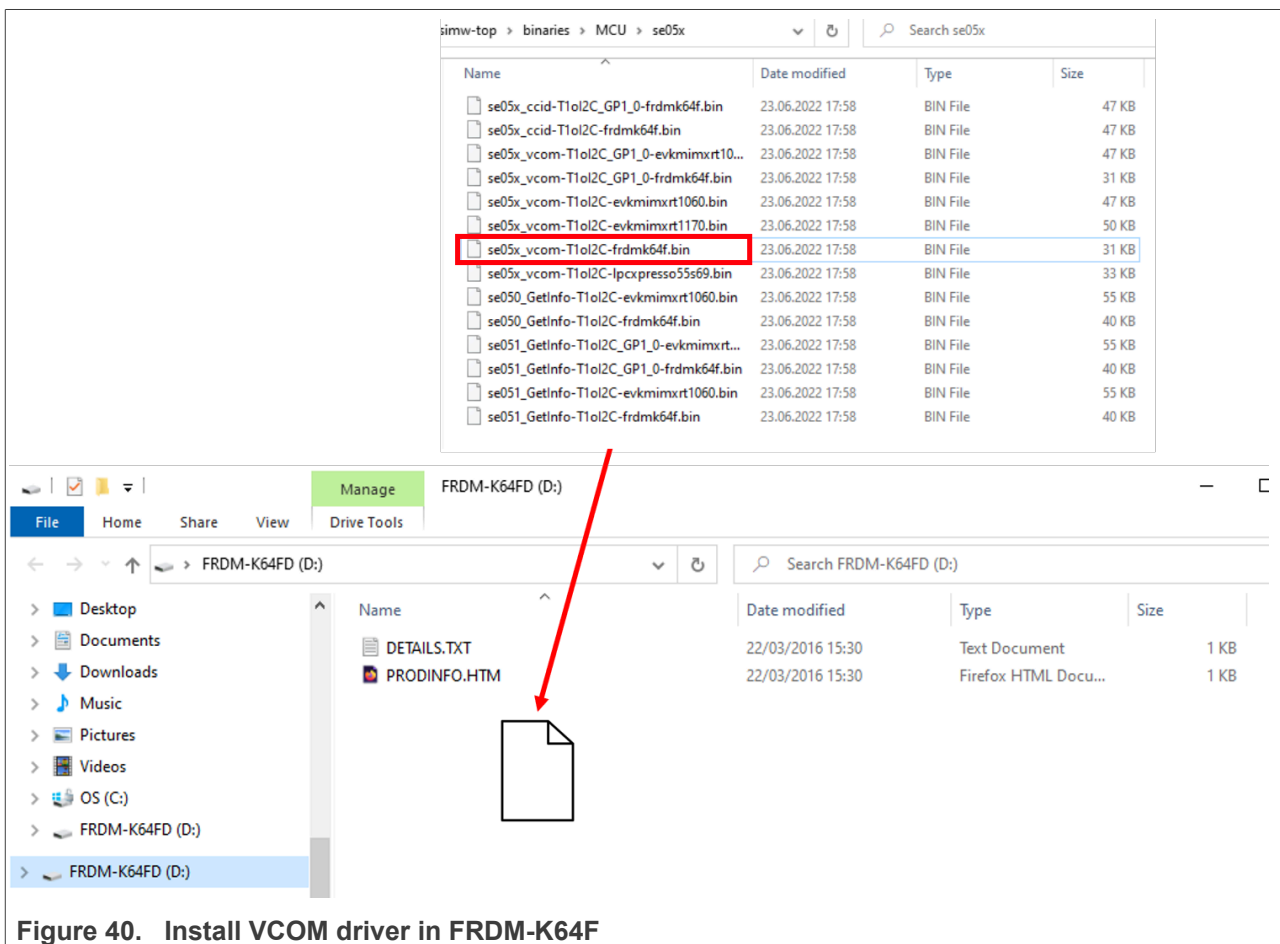

Figure 40. Install VCOM driver in FRDM-K64F
1. Connect the FRDM-K64F board to the PC using the OpenSDA USB port as shown in Figure 40:
- 2. Go to <MW\_installation\_path>/simw-top/binaries/MCU/se05x, locate the file se05x\_vcom-T1oI2C-frdmk64f and then copy it in the FRDM-K64FD drive as shown in Figure 40: